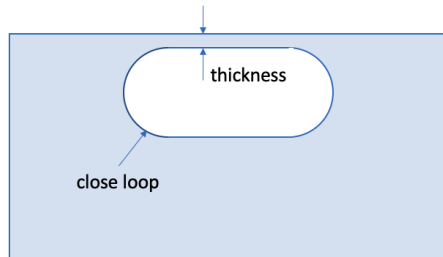
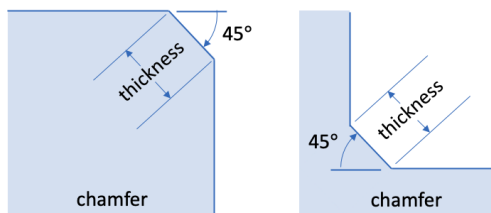

Figure 7. Close Loop Example
Figure 8. Chamfer Examples
- **Chamfer Chains** - A chamfer surface can be identified as a narrow strip where its angle to neighboring surfaces is about 45 degrees as shown in Figure 7. Chamfers often occur as a chain or connected set of surfaces and are grouped together in the power tool as a collection of surfaces that can be expanded and examined individually. Chamfer chains are ordered based on the narrow thickness of the surfaces illustrated in Figure 8. Setting the **Chamfer Thickness** threshold in the Options panel will control which chamfer chains will be identified. The default value for **Chamfer Thickness** threshold is the current **mesh_size**. Since chamfers with small thickness can effect the resulting size of the elements the remove surface option is often used to eliminate them.
- **Blend Chains** - A blend surface serves as a smooth transition between two neighboring surfaces, such as a fillet as shown in Figure 8. Blends are identified as surfaces having a constant radius along one of its parametric directions. Blends often occur as a chain or connected set of surfaces and are displayed as a collection of surfaces in the power tool that can be expanded and examined individually. Enter a **Blend Radius** threshold value at the top of Geometry power tools options panel to control the maximum radius of curvature for surfaces returned from this test. The default value for **Blend Radius** threshold is the current **mesh_size**. Resulting blend surfaces are ordered based upon their minimum radius of curvature. Blend chains can be candidates for the remove surface blend_chain or split surface commands.